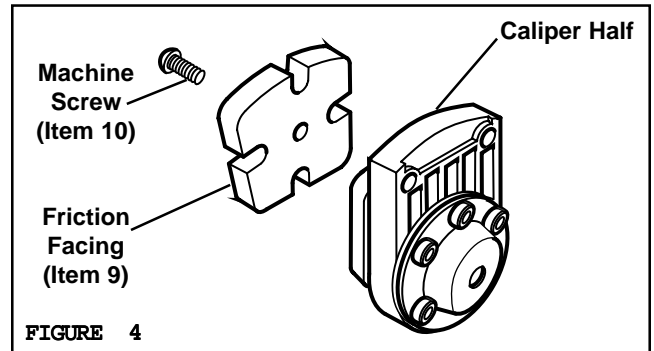

FIGURE 4
1. Screw the Rotary Air Union assembly into the shaft end (See Figure 4).
2. Route the air lines from the Rotary Air Union to the individual caliper assemblies (See Figure 4).